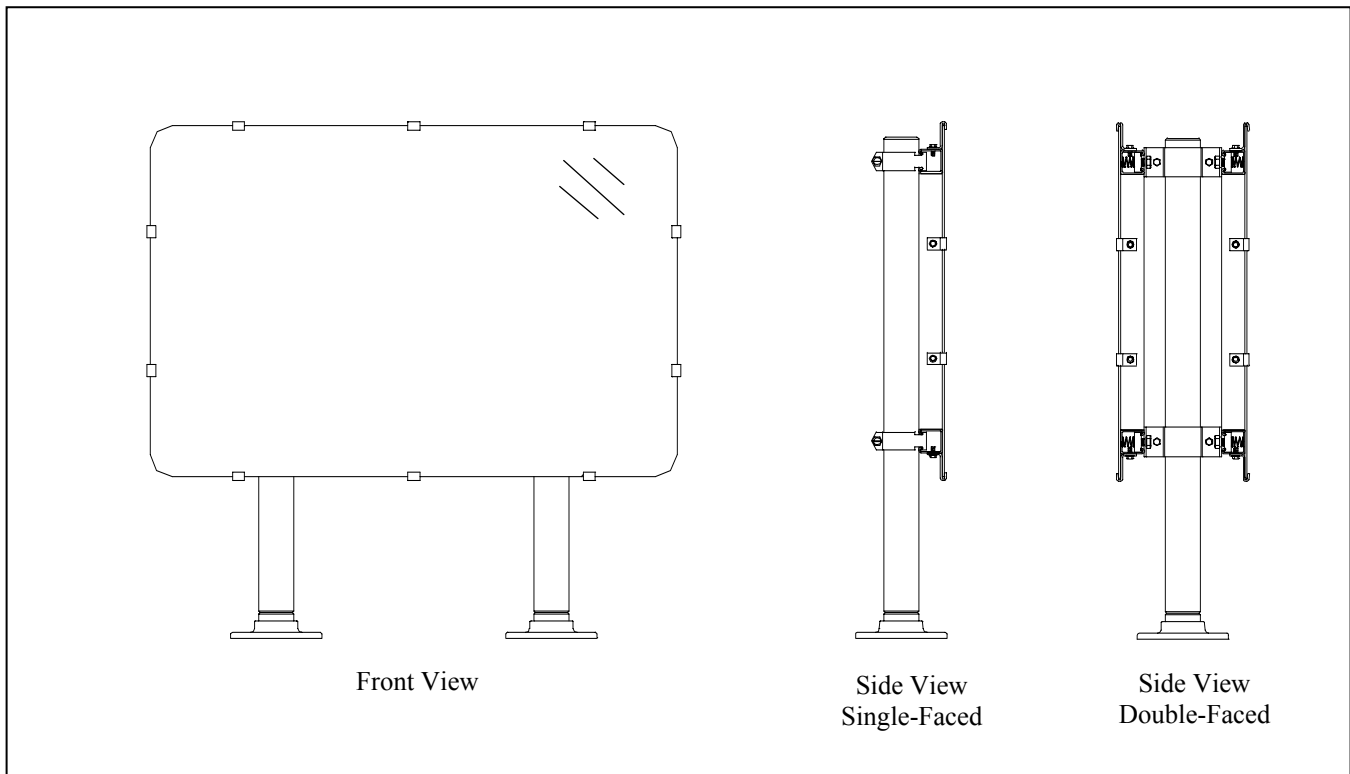

Figure 1. L-858 Unlighted Taxiway and Runway Signs, FAA Style 4 (Single- and Double-Faced)
See Figure 1. The Siemens Airfield Solutions L-858 unlighted taxiway and runway signs, FAA Style 4, are used on airports
**NOTE:** Figure 1 shows the single module, Size 1 and Size 2, two-legged L-858 unlighted sign. The single module, Size 3 sign has three legs.